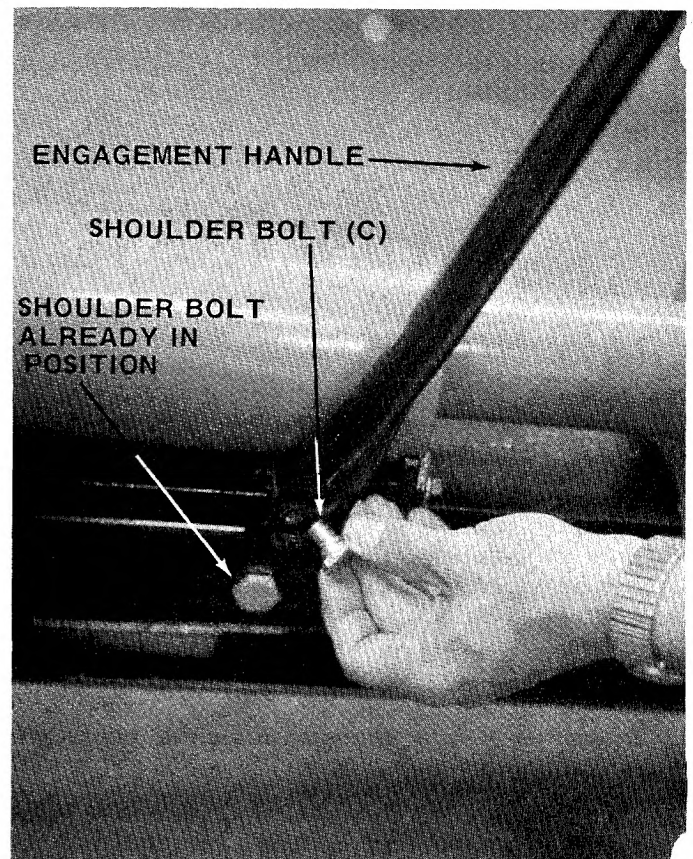

FIGURE 3
4. The engagement handle is partly assembled, pivot handle upward into position and secure with shoulder bolt (C). See figure 3.